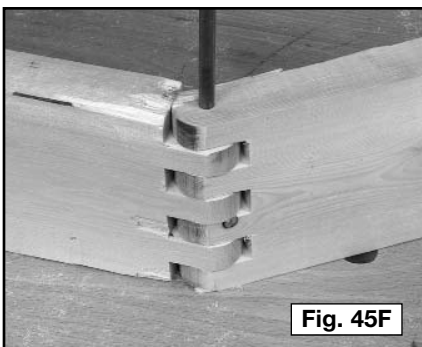

Fig. 45F
- Step 5** - Hold the boards together, align the holes, and insert the pin (Fig. 45F).